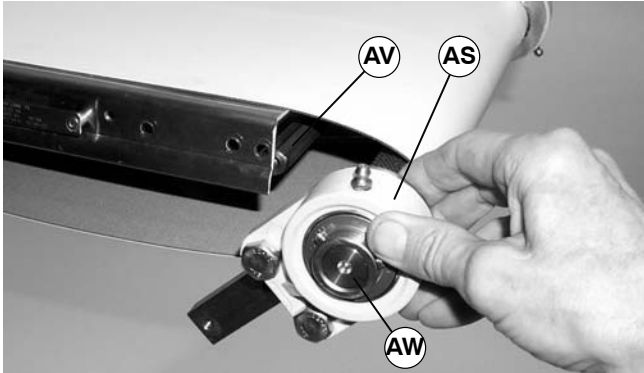

Figure 30
- Install bearing and head plate assembly (AS of Figure 30) onto drive spindle (AW).